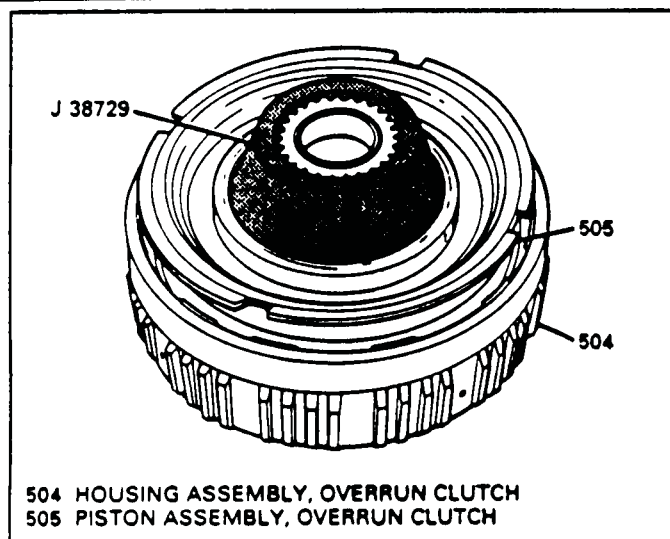

Figure 94
1. Install seal protector J-38729 onto the overrun clutch housing (See Figure 94).